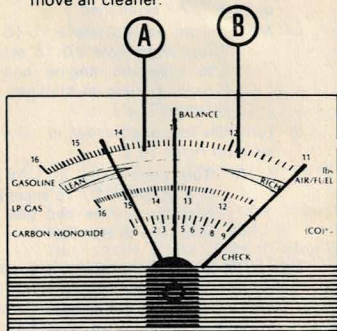

Figure 6
1. The instrument should read between 12.5 - 14.7 with steady pointer. (See Figure 6 "a"). (High compression engines will usually read in the high area and low compression engines in the low area.)